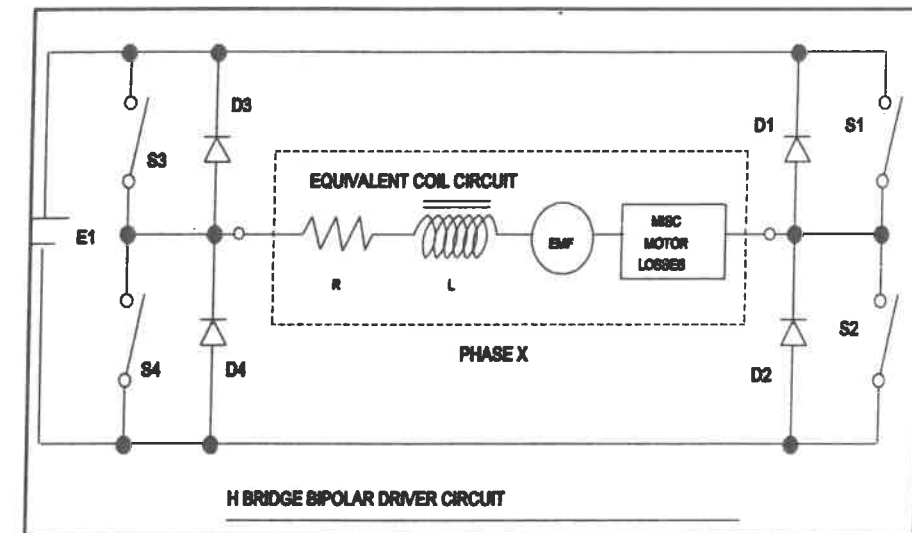
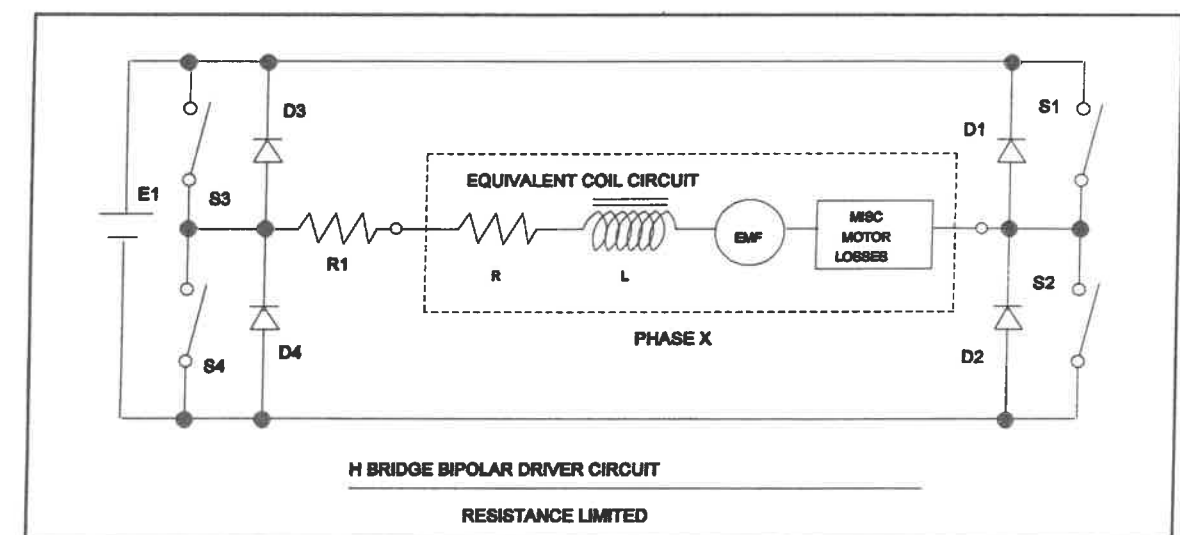

Figure 7.6 H bridge bipolar driver circuit.
Figure 7.7 H bridge bipolar driver circuit—resistance limited.
**BiPolar** – Bipolar operation simply means that coil current in any given coil is allowed to flow in either direction. The coils are constructed so that by sequencing the coil current, armature movement will be generated. Figure 7.6 illustrates an H bridge bipolar driver. When S1 and S4 are closed, S2 and S3 are open and vice-versa. The drive allows current to flow through the phase winding in both directions. Figures 7.7 and 7.8 are examples of two other styles of bipolar drives.